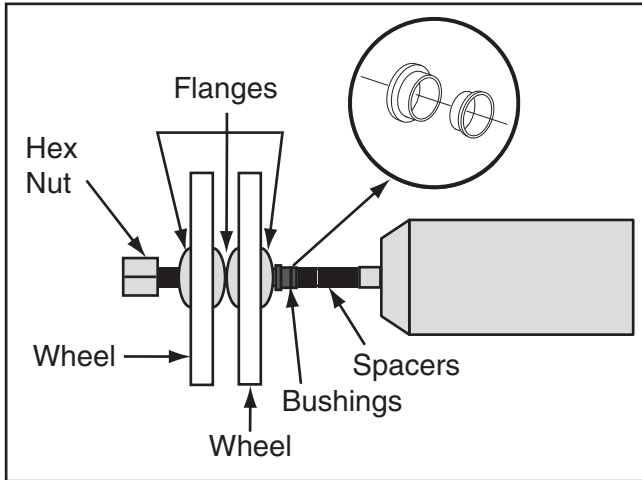

Figure 6. Buffing wheels installed.
- Fit (1) $\frac{3}{4}$ " x $\frac{5}{8}$ " x $\frac{5}{16}$ " T-bushing inside (1) 1" x $\frac{3}{4}$ " x $\frac{3}{8}$ " T-bushing and slide onto first shaft. Insert a buffing wheel (not included) between each of the two wheel flanges, then slide flanges onto shaft and secure with hex nut removed in **Step 2**, as shown in **Figure 6**. Repeat on second shaft.